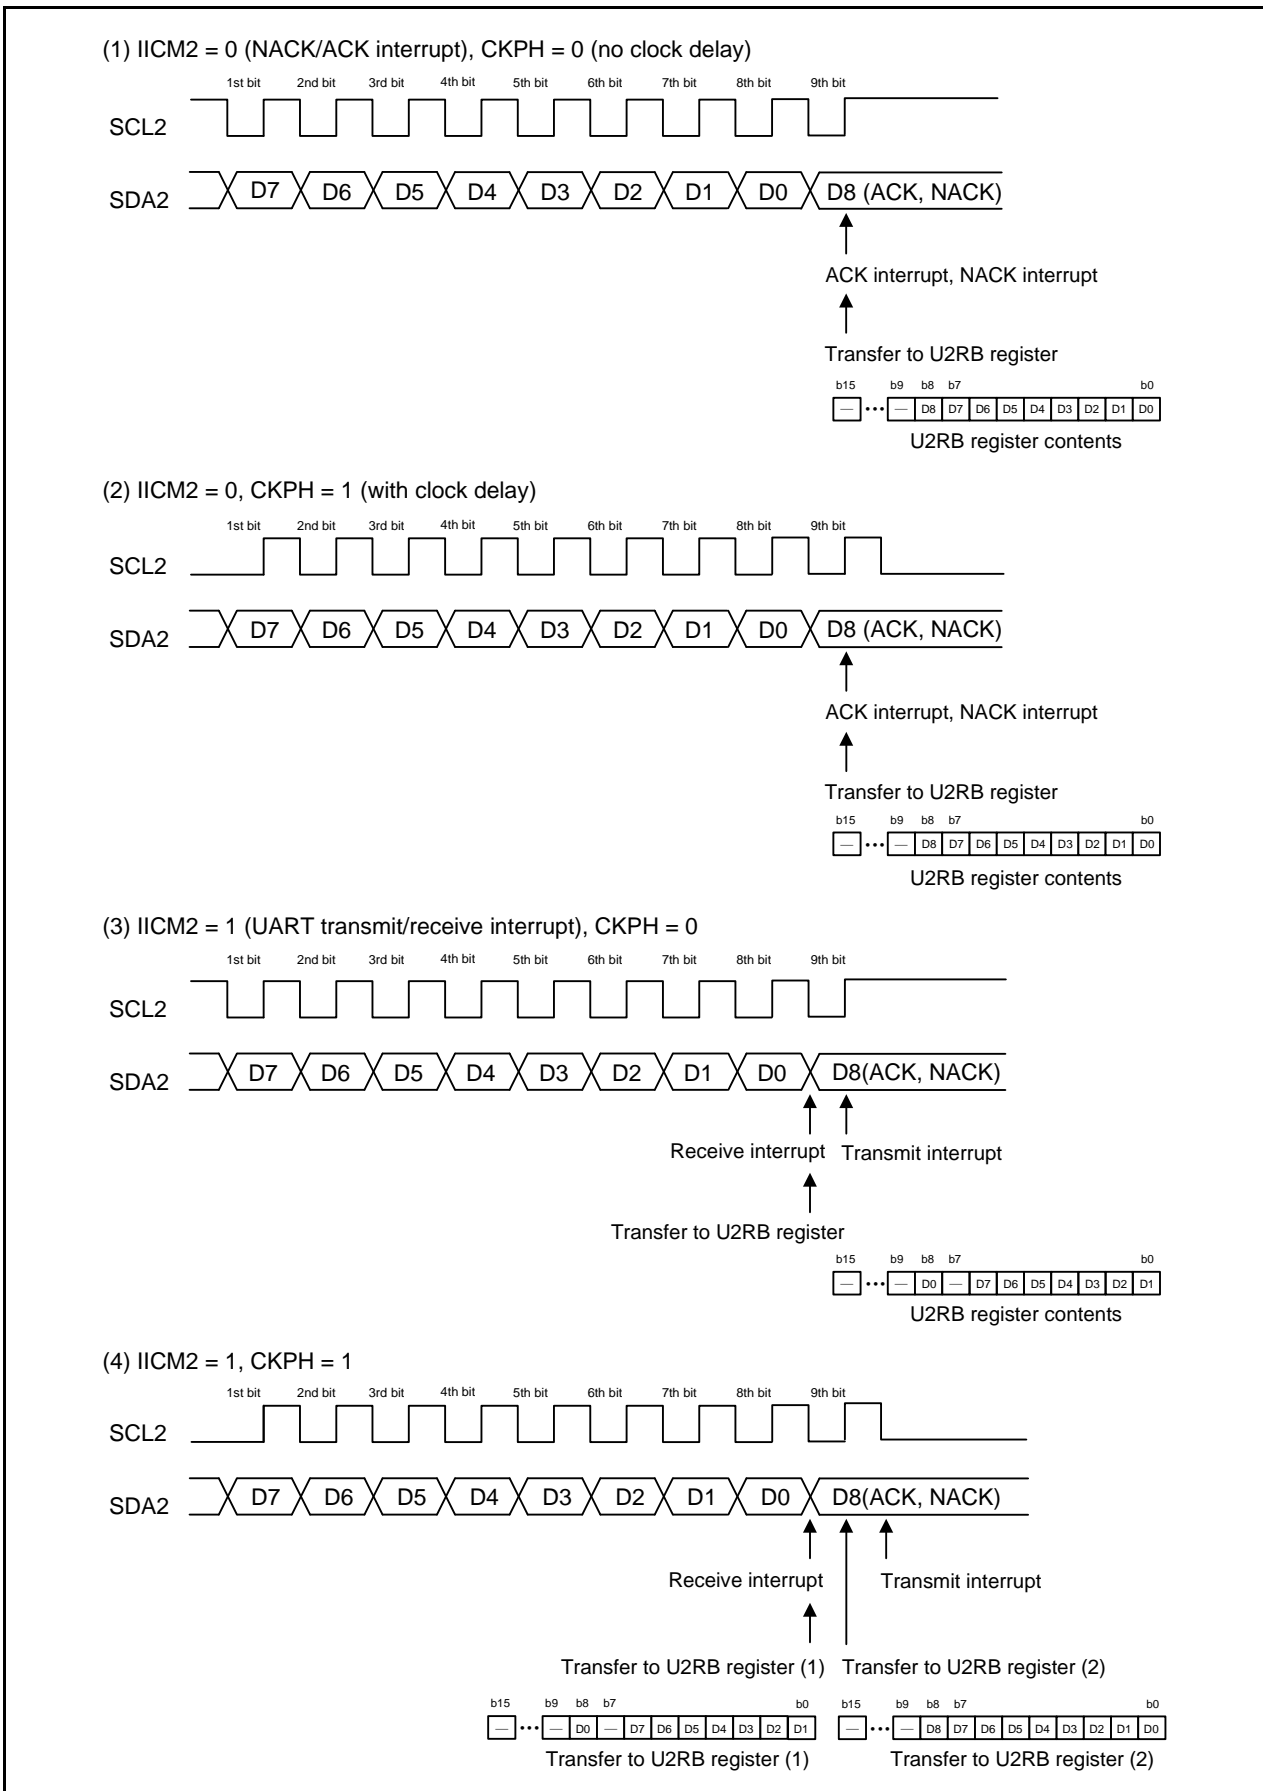

Figure 20.14 Transfer to U2RB Register and Interrupt Timing
I2C mode is provided for use as a simplified I2C interface compatible mode. Tables 20.9 and 20.10 list the Registers and Settings Used in I2C Mode, Table 20.11 lists the I2C Mode Functions, and Figure 20.14 shows the Transfer to U2RB Register and Interrupt Timing.
5. Refer to **Figure 20.14 Transfer to U2RB Register and Interrupt Timing**.
The transfer clock is used to transmit and receive data as is shown in **Figure 20.14 Transfer to U2RB Register and Interrupt Timing**.